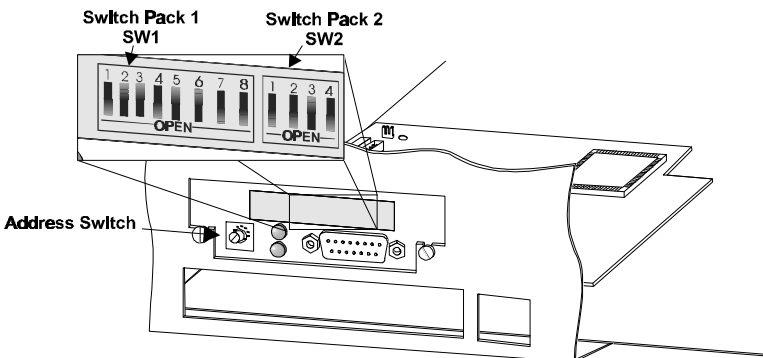

Figure 1 Location of Configuration Switches.
To configure the Multi-Platform Interface Feature, you use the twelve (12) dip switches and the rotary switch located on the Interface I/O (See **Figure 1**).